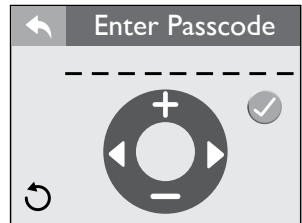

Figure 10.2d
4. Now input the 9-digit passcode, Figure 10.2d, that was provided online when you registered your spa. This step is not required for export models.